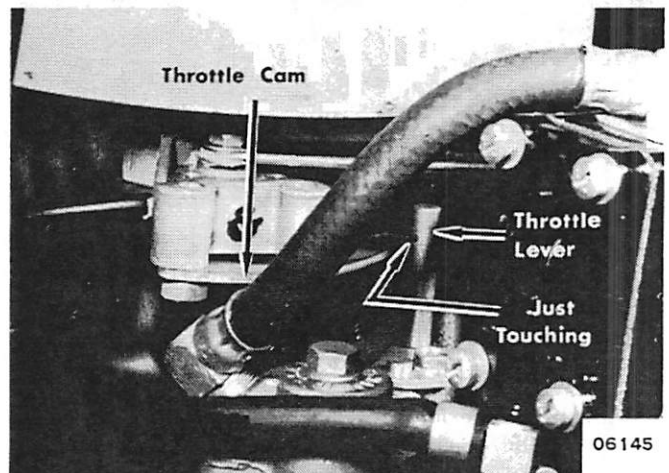

Figure 6. Throttle Pickup Adjustment - Merc 100-75
12. Close throttle with twist grip until meter indicates point just opens. Adjust throttle cam to just touch throttle lever. (Figure 6)